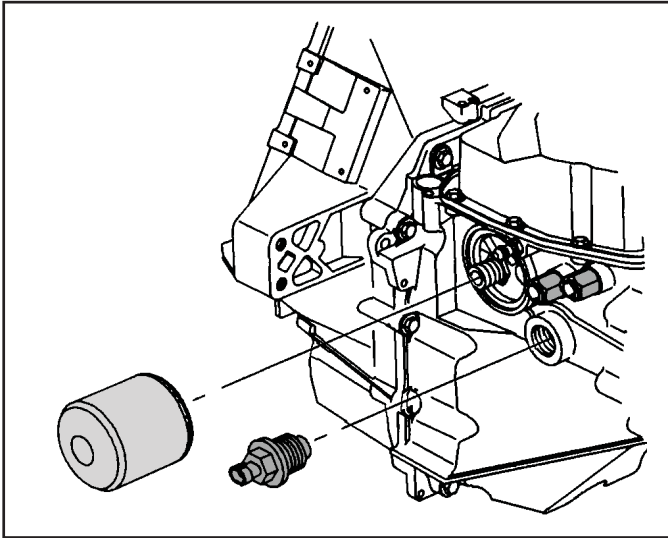

Figure 59
5. Using a suitable oil filter wrench, remove the external filter from the case and **DISCARD** the filter (See Figure 59).
6. Using a 24mm wrench, remove the turbine shaft speed sensor (See Figure 59).